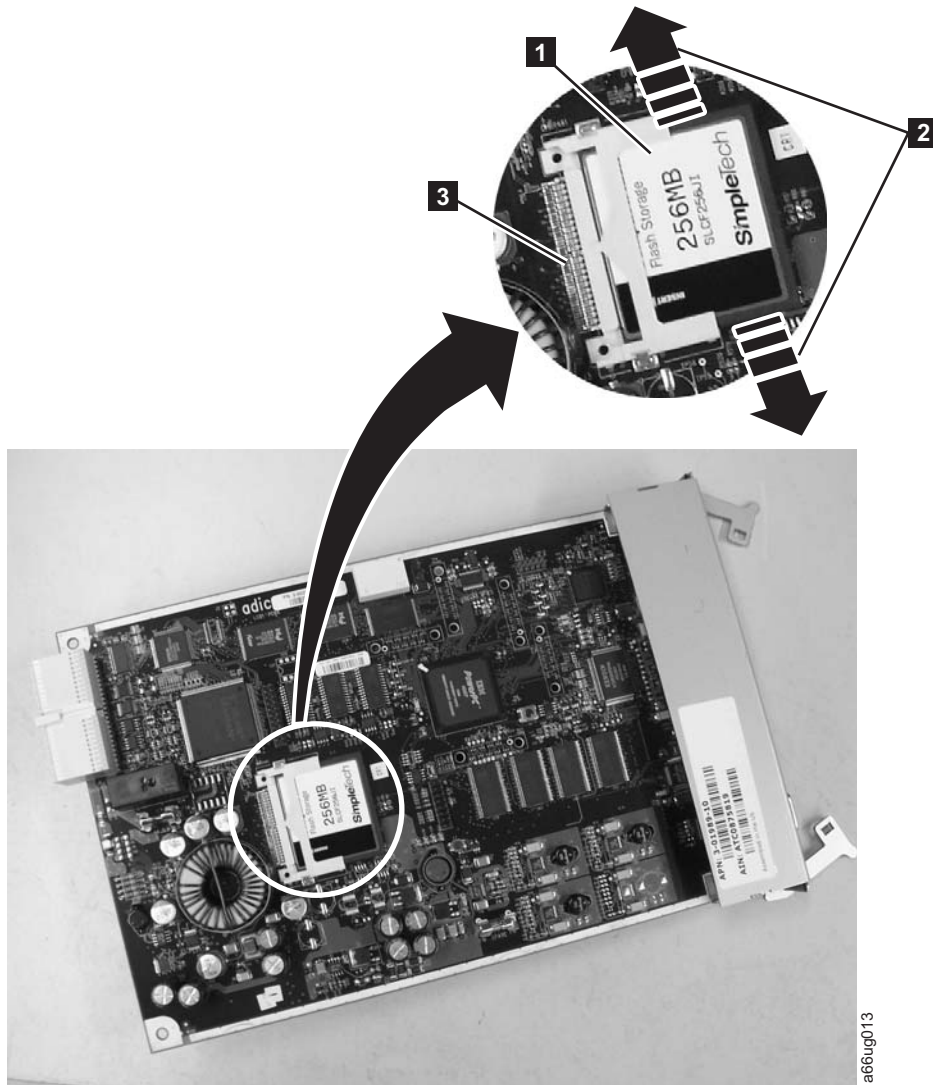

Figure 11-10. LCB with compact flash card
In Figure 11-10, the area inside the white circle shows the location of compact flash card on the LCB. A close-up of the compact flash card (see **1** in Figure 11-10) is shown in the detailed view of the same illustration.
Refer to Figure 11-10 on page 11-14 for this procedure.
(See the area enclosed in the white circle in Figure 11-10 on page 11-14 for location).
2. Transfer the compact flash card to the new LCB with the label up, barcode down, and pins aligned. Without touching any other components on the LCB, carefully grasp the compact flash card, and slowly slide it into the guide slots. Continue to push the compact flash card into the guide slots until the pins start to connect. Then, with your thumb against the edge of the connector (**3** in Figure 11-10 on page 11-14) and your forefinger against the opposite edge of the compact flash card, squeeze the compact flash card until the pins are firmly seated against the connector (**1** in Figure 11-10 on page 11-14).